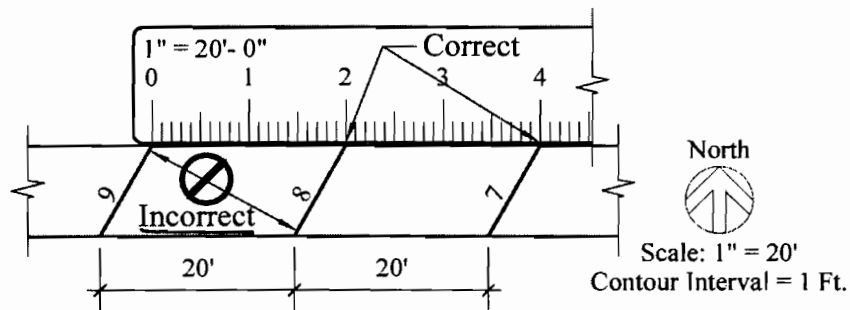

Figure 16. Correctly Scaling the Length Between Contours on a Walk Having Cross Slope
* **IMPORTANT DISTINCTION IN CALCULATING GRADE:** Be aware that there is a fundamental difference between determining grade based on the length between contours on paved and non-paved surfaces. On paved (hardscape) surfaces, it is imperative that the *longitudinal grade be based on the length between contours scaled along the edge of the plane surface, or along a centerline if the plane surface is a road or other bilaterally symmetrical surface* as shown in Figure 16. It should not be scaled perpendicularly to the contours. The only exception to this rule is where the exam explicitly requires that the grade be calculated along a line perpendicular to the contour lines across a plane surface.